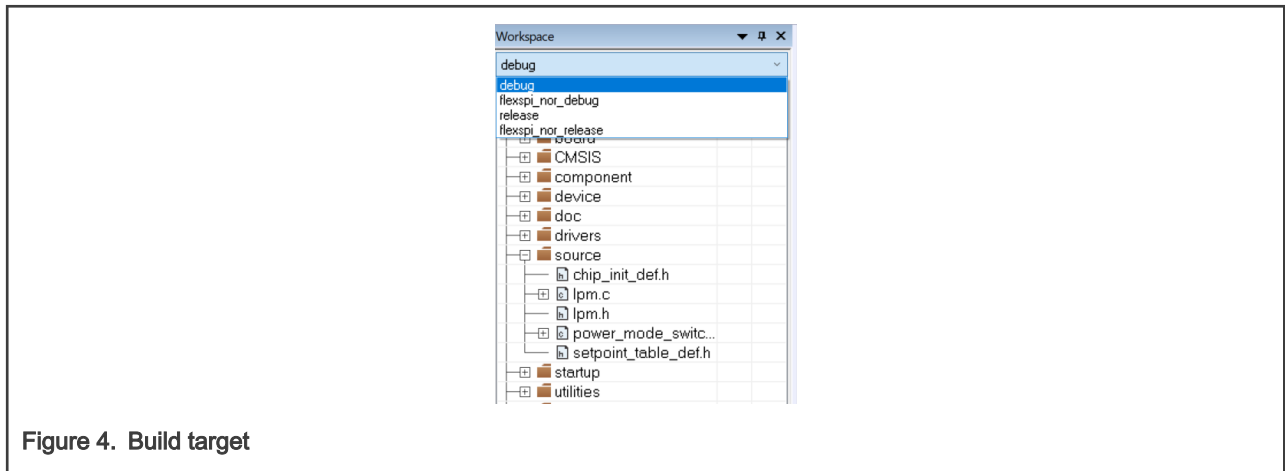

Figure 4. Build target
3. Debug the default build target as shown in Figure 4